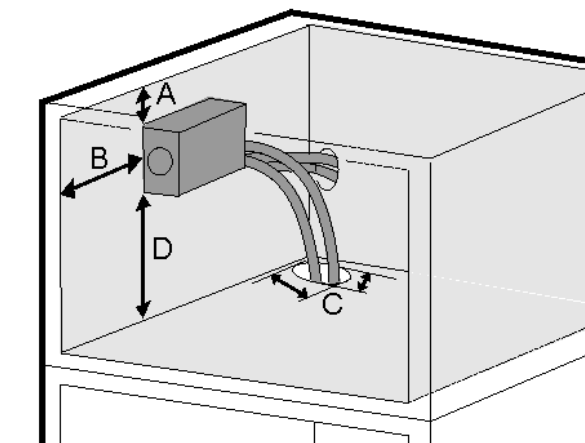

Fig. 5
- (A) 13/16in (20mm)
- (B) 3-15/16in (100mm)
- (C) 1-3/16in. x 3/8in. (30mm x 10mm)
- (D) min. 4in (100mm)
- Maintain the dimensions shown in Fig. 5 so that the filter can be replaced and the cover can be removed. The two hoses of the water filter can run alternatively through the back of the cabinet or through the base depending on the specific installation situation.